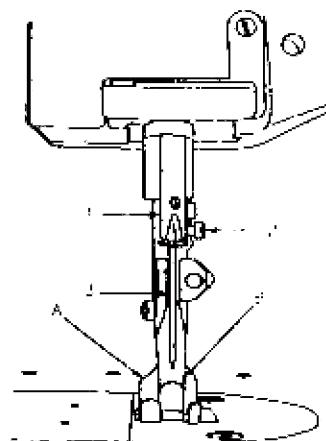

Fig.5
4. REPLACE NEEDLES (Fig.5)
2) When altering the lift of the lifting presser foot (A Fig.5) unequally against that of the vibrating presser foot (B Fig.5) or vice versa, see the instructions "ADJUSTING THE HEIGHT OF THE PRESSER FEET".